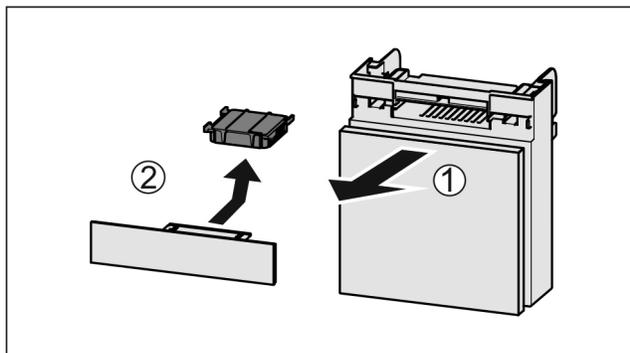

Fig. 68
- ▶ Pull out the compartment Fig. 68 (1).
- ▶ Remove the carbon filter Fig. 68 (2).